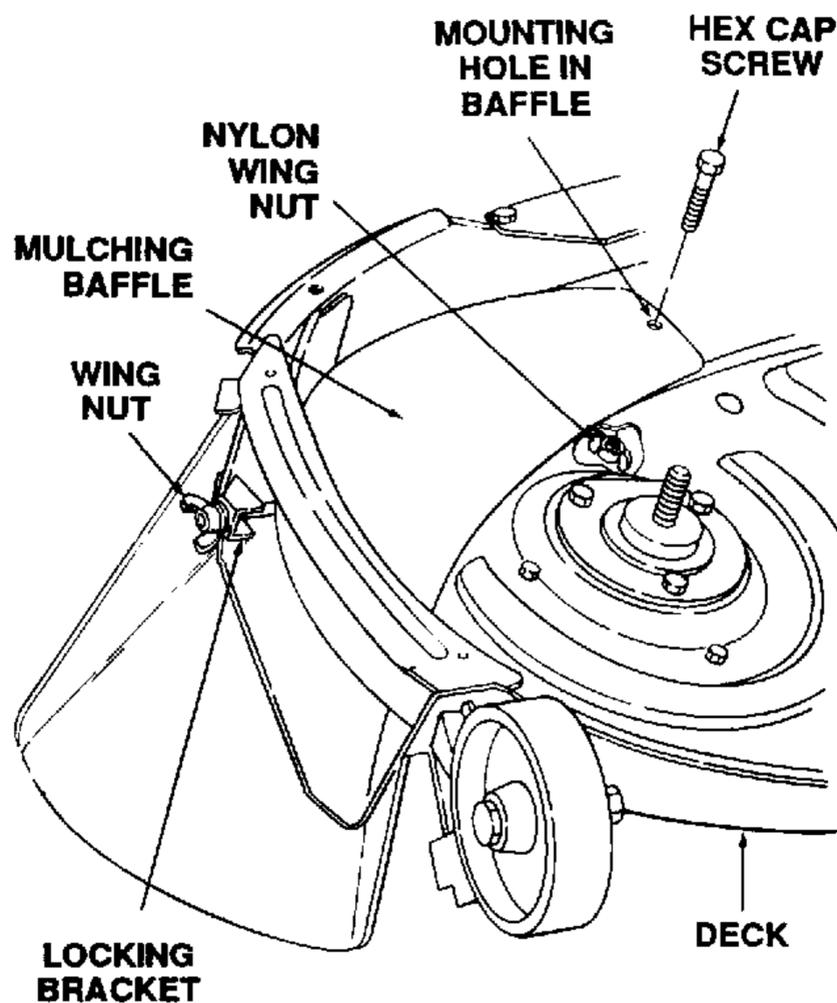

Figure 7-5. Positioning Mulching Baffle.
2. Hook the locking bracket (9) onto the edge of the deck (see Fig. 7-5) and tighten the wing nut (or hex nut, if used) until snug.